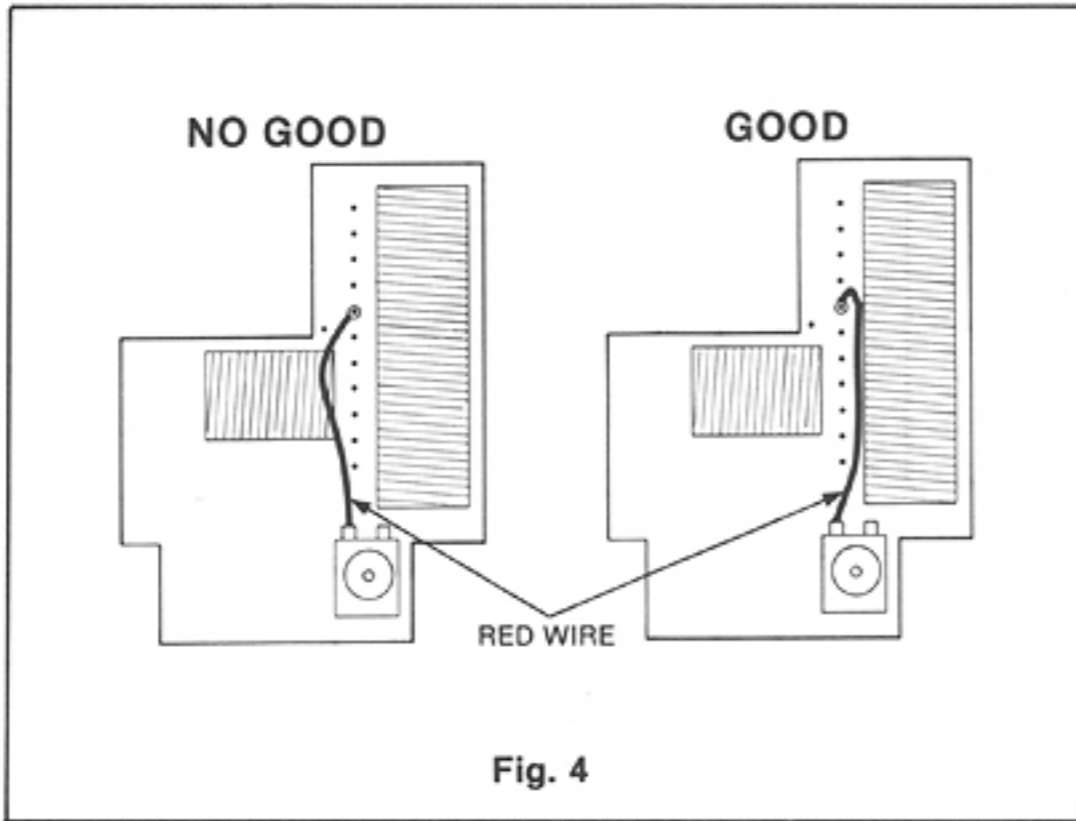

Fig. 4
CAUTION: The location for connecting the red wire in step ③ below is shown in Fig. 4. Use of an improper location could result in fire risk.